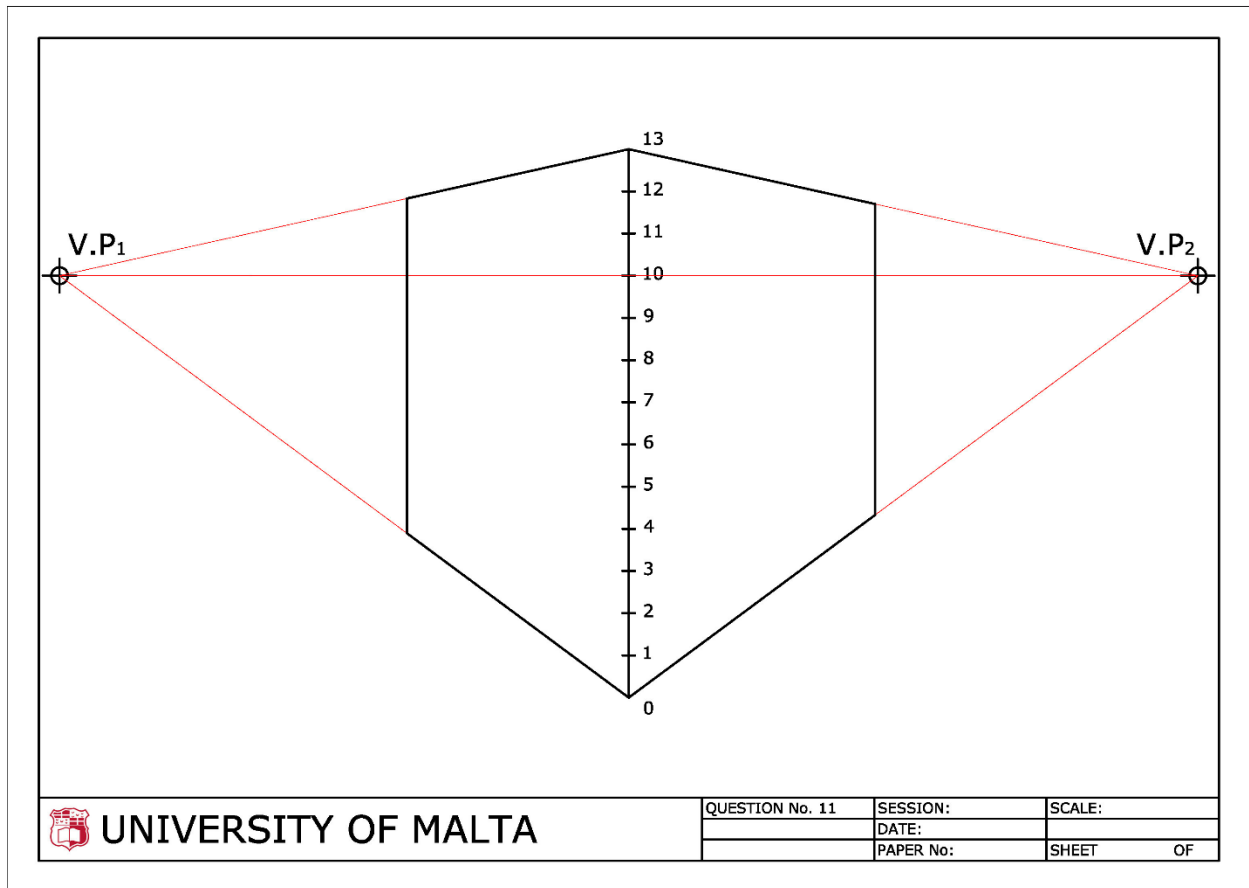

Figure 11c
Use the dimensions given in the orthographic projection to construct an estimated two - point perspective of the chicken coop. The viewing direction required is indicated by the arrow in the plan. Use the suggested layout of the two - point perspective shown in the Figure 11c. (21)